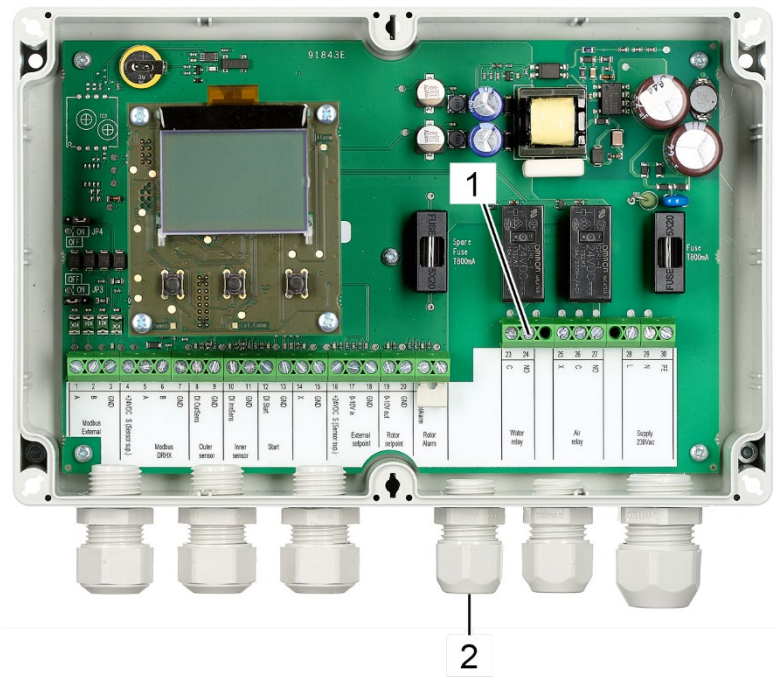

Fig. 90: Terminals water relay
24. Insert the wires of the water relay (power supply wire and neutral wire) through the cable socket (Fig. 90/2).
25. Connect the power supply wire of the water relay to terminal 24 (Fig. 90/1, NO).